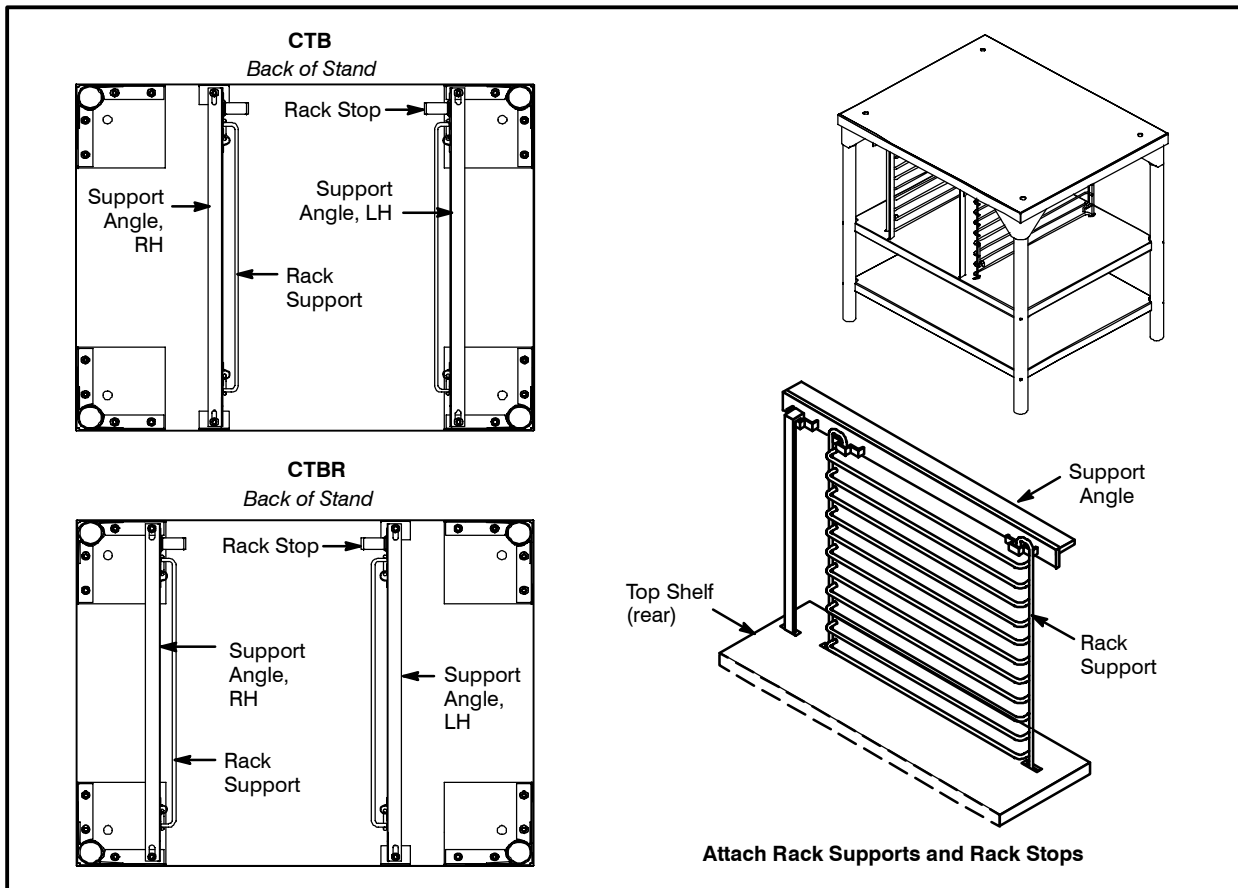

Figure 3
1. Lay stand frame top down on the floor as shown. See Figure 3.
*NOTE: Be sure the support angles and clips are located correctly for your oven configuration. See Figure 3.*